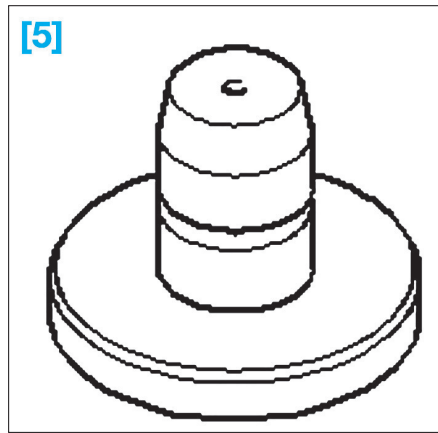

FIG. 36
- [5]. Poinçon Ref. VW 412 (Fig.36).